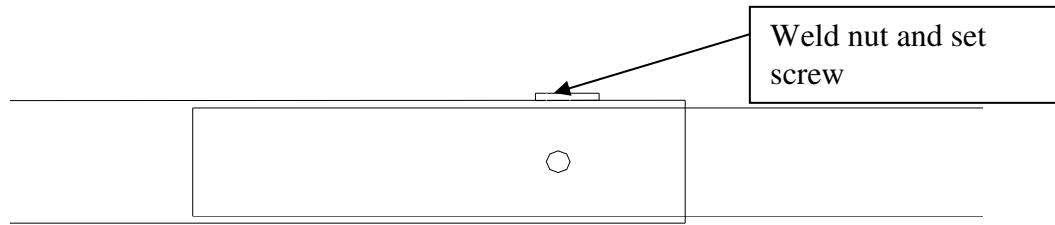

Figure 5. Close up of mating between inner and outer tubes, showing weld nut.
- 7) At this point, it is equally acceptable to attach the board or hoist the adjust-a-goal into place at the end of the extension arms. **The wall mount must be supported as this is done.** If you are attaching the board, utilize the 3/8"-16 x 1" carriage bolts at the top support angle and the 3/8"-16 x 3.5" carriage bolts at the DME. To attach the adjust-a-goal, use (4) 1/2"-13 x 2" machine bolts and 1/2"-13 whiz-lock nuts.
- 9) To temporarily retain the extension tubes at the proper length, tighten the setscrews provided in the welded on T-nut (see Figure 5). At this time, the board should also be squared and leveled.